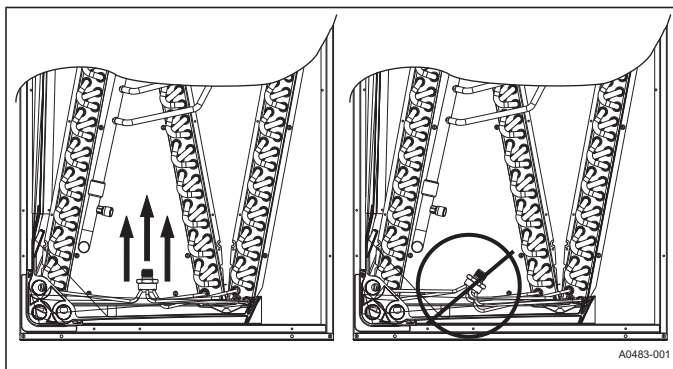

FIGURE 9: Recommended Distributor Adjustment
2. Distributor position must be adjusted to allow the preformed liquid line assembly to properly line up with the hole in the tubing access panel. Raise the distributor body approximately 2" toward the top of the coil or what would be the top of the coil if coil was in the upflow position. See Figure 9. Adjust as necessary.
5. Slide the nut removed in step 3 over the supplied liquid line. Place supplied Teflon washer from TXV kit in place on TXV, and install liquid line to the top of the thermal expansion valve. Adjust assembly so liquid line aligns with hole in access panel. See Figure 9. Hand tighten the liquid line, and apply an additional 1/4 turn to seal.